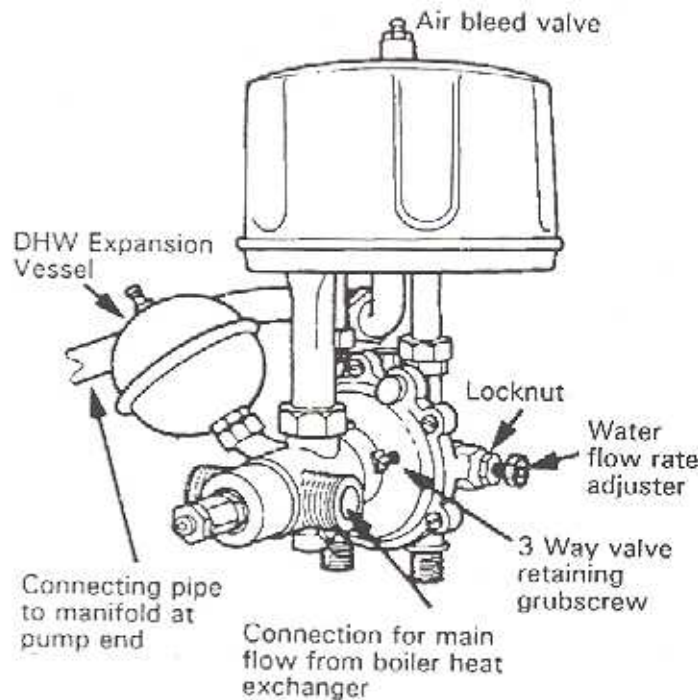

Fig.37
Refer to figs 37, 38 and 39
- 8.17.9 Disconnect 4 union nuts (fig.37).